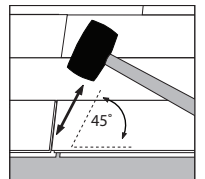

Figure 5
2. Align the next piece by overlapping the end of the first board. Tap the joint with the rubber mallet using a downward angle striking motion towards the adjoining plank or tile (Figure 5) until the tongue and groove lock together to secure the joint on the ends. Continue in this manner until reaching the final board in the first row.
4. Tap the joint with the rubber mallet using a downward angle striking motion towards the adjoining end joint (Figure 5) until the tongue and groove lock together on the side and ends.